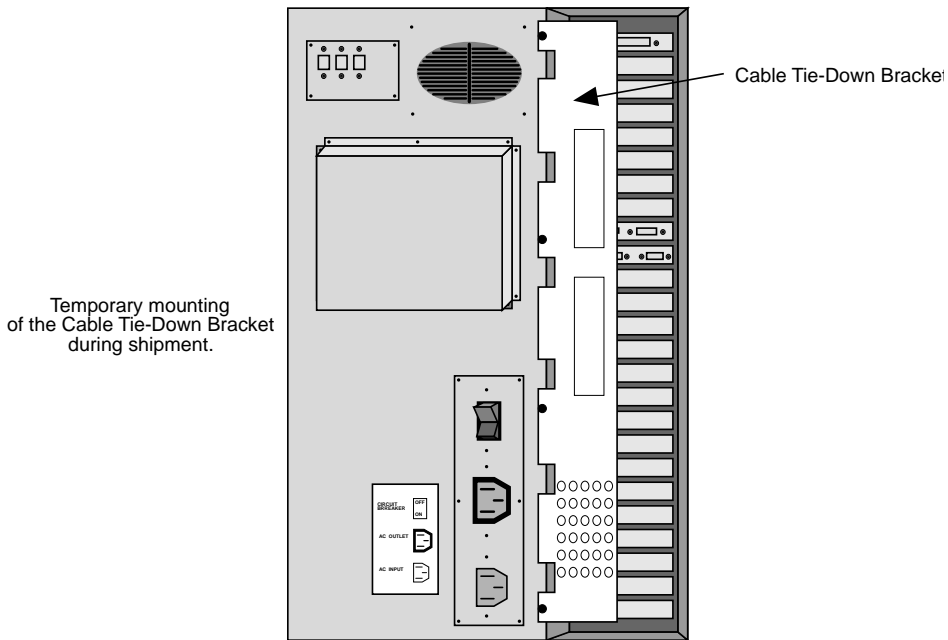

Figure 2-2. Cable Tie-Down Bracket Position During Shipment
Each MAP/100 includes a cable tie-down bracket. Units equipped with multiple Tip/Ring circuit cards and a Tip/Ring distribution panel are shipped with cabling attached to this bracket. This bracket must be permanently attached to the unit. If it is not, see Figure 2-2 for an example of the position of the bracket during shipping.
1. Loosen the four screws next to the 25-slot backplane (Figure 2-2).